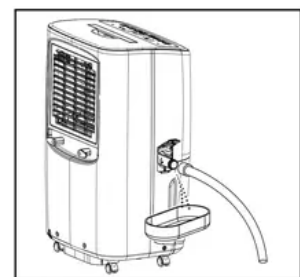

fig. 9
- When you want to remove the garden hose, prepare a drip tray (not supplied) to collect the water from the nozzle.(fig.9)